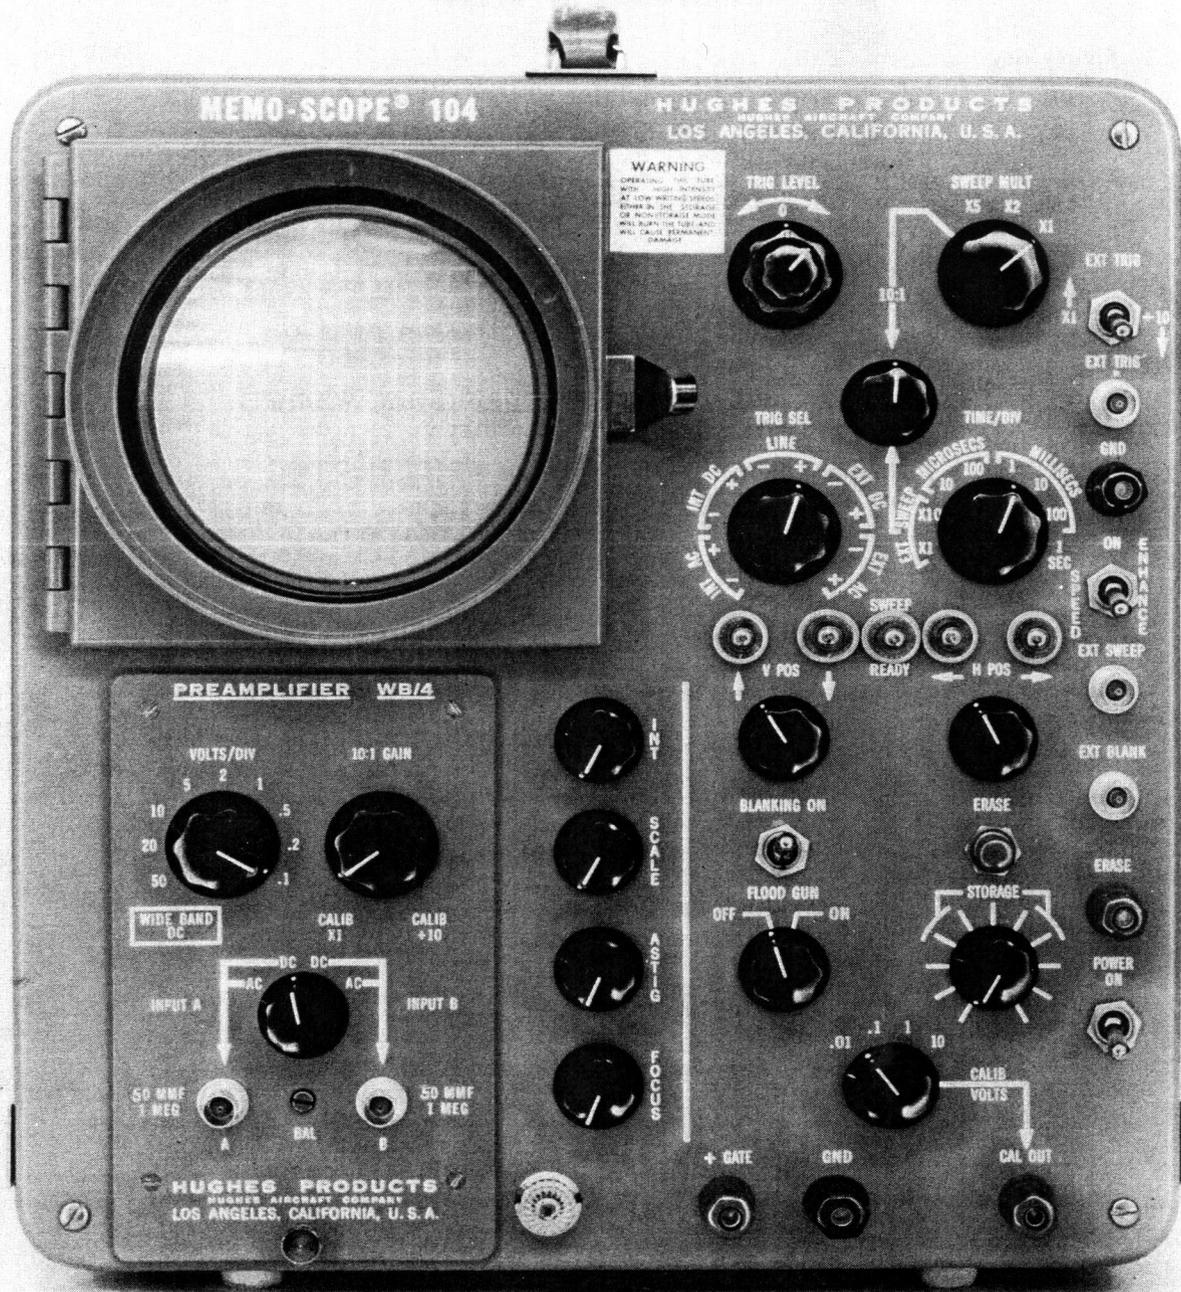
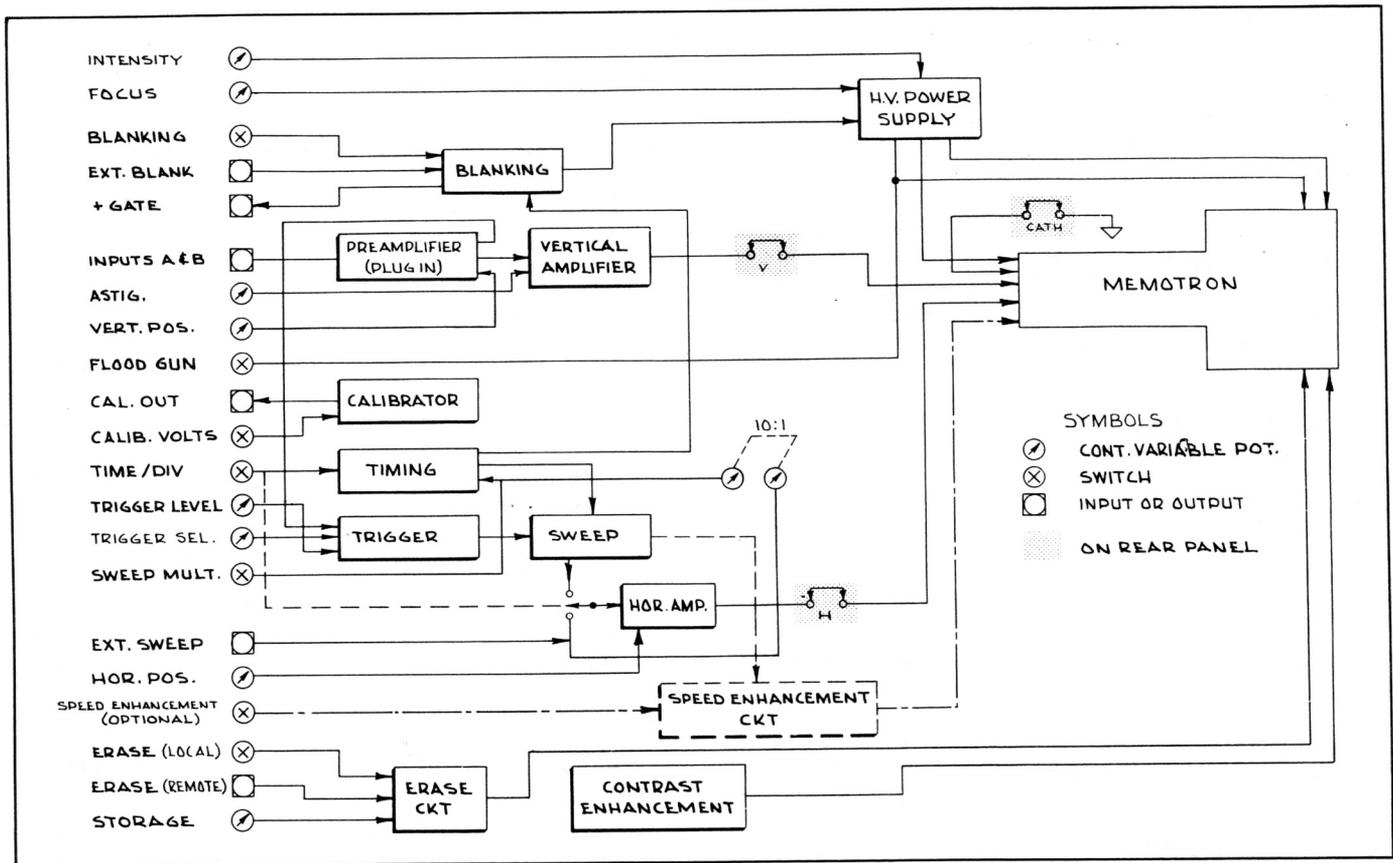

Figure 1. Front Panel, MEMO-SCOPE Oscilloscope, Model 104-D, with WB/4 Preamplifier, Optional Camera Mount, and Speed Enhancement Circuit
Figure 3. Block Diagram, Model 104-D
When using the storage feature, the stored trace can be retained for as long as desired, and then erased by simply depressing the ERASE button on the front panel of the MEMO-SCOPE oscilloscope (see figure 1), or by grounding the external ERASE jack.
1-9. **FUNCTION OF CONTROLS FOR MEMO-SCOPE OSCILLOSCOPE.** For the location of the controls discussed in the following paragraphs, see figure 1 (front panel of MEMO-SCOPE oscilloscope). The control names used in the following paragraphs are exactly as they appear on the MEMO-SCOPE oscilloscope, and are capitalized: TRIG LEVEL, EXT TRIG, etc., as marked on the front panel. The block diagram shown in figure 3 illustrates in a simple schematic manner the relationship of these controls and connectors to their related circuits in the MEMO-SCOPE oscilloscope.
1. WB/4-D Preamplifier (shown installed in MEMO-SCOPE oscilloscope in figure 1).